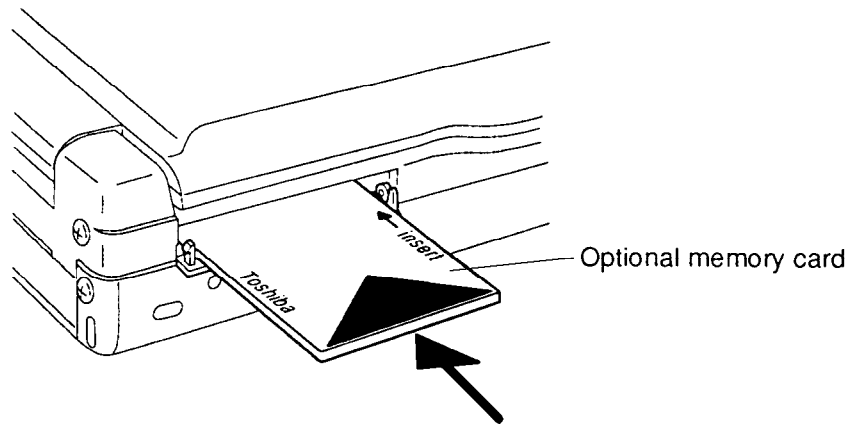

Figure 4-4 Installing the Optional Memory Card
To install an optional memory card in the T4500/T4600 Family computer, follow the steps below and refer to Figures 4-4 and 4-2.
1. The top of the **optional memory card** is marked with the word “insert” and an arrow pointing toward the connecting edge. Turn the memory card so that it is facing up and carefully insert the connecting edge (arrow first) into the slot. *Gently* push the card until it firmly connects (Figure 4-4).